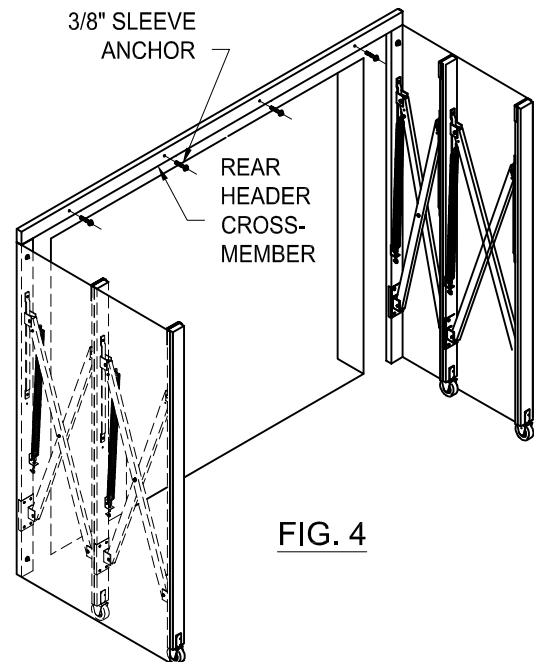

FIG. 4
- * Position rear header cross-member into place (fig. 4).
- * Insert 3/8" sleeve anchors and tighten with 1/2" socket wrench (fig. 4).